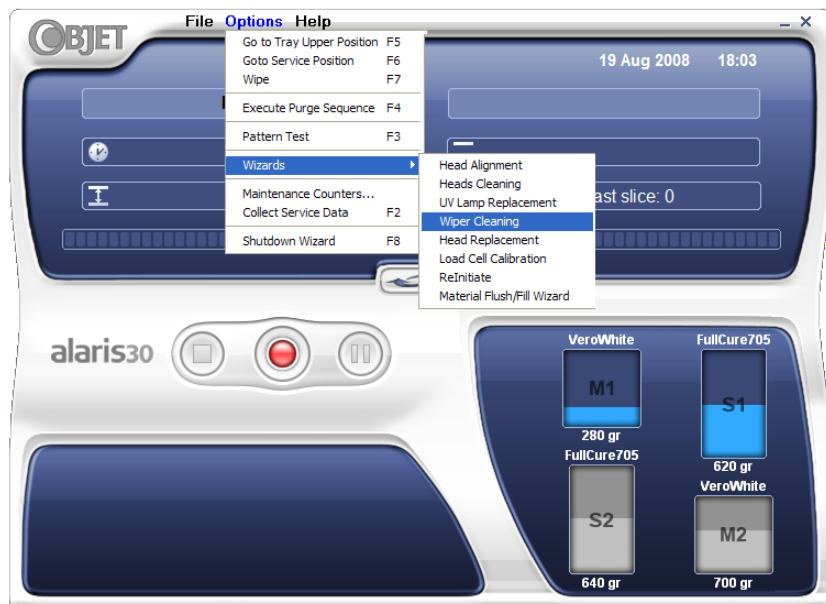

Figure 7-33: Starting the Wiper Cleaning wizard
2. Start the Heads Cleaning wizard from the *Options* menu (see figure 7-33 on page 7-25).
2. Start the Head Alignment wizard, from the Alaris *Options* menu (see figure 7-33 on page 7-25).